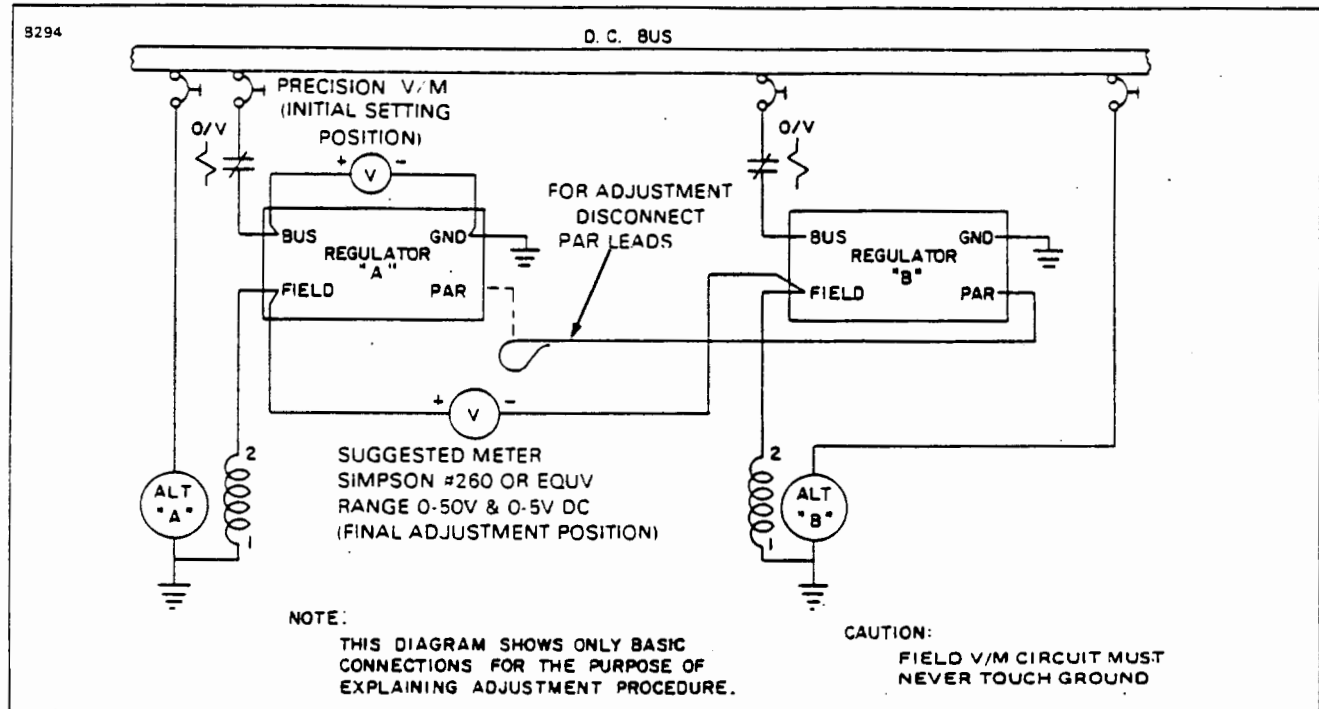

Figure 24-6. Adjusting Regulator (LAMAR)
1. These regulators are normally used in parallel alternator systems of multi-engine aircraft. Their final adjustment should be made in actual operation in the aircraft system with test equipment connected as shown in Figure 24-6. The balance adjustment is made while operating only one engine, either left or right. The engine to be operated must be selected so as to permit the technician a completely safe access to both of the regulators, so that they may be adjusted while the engine is operating without danger. We shall designate the engine selected to be operated as "LEFT" and the inoperative engine as "RIGHT" for purposes of discussion.